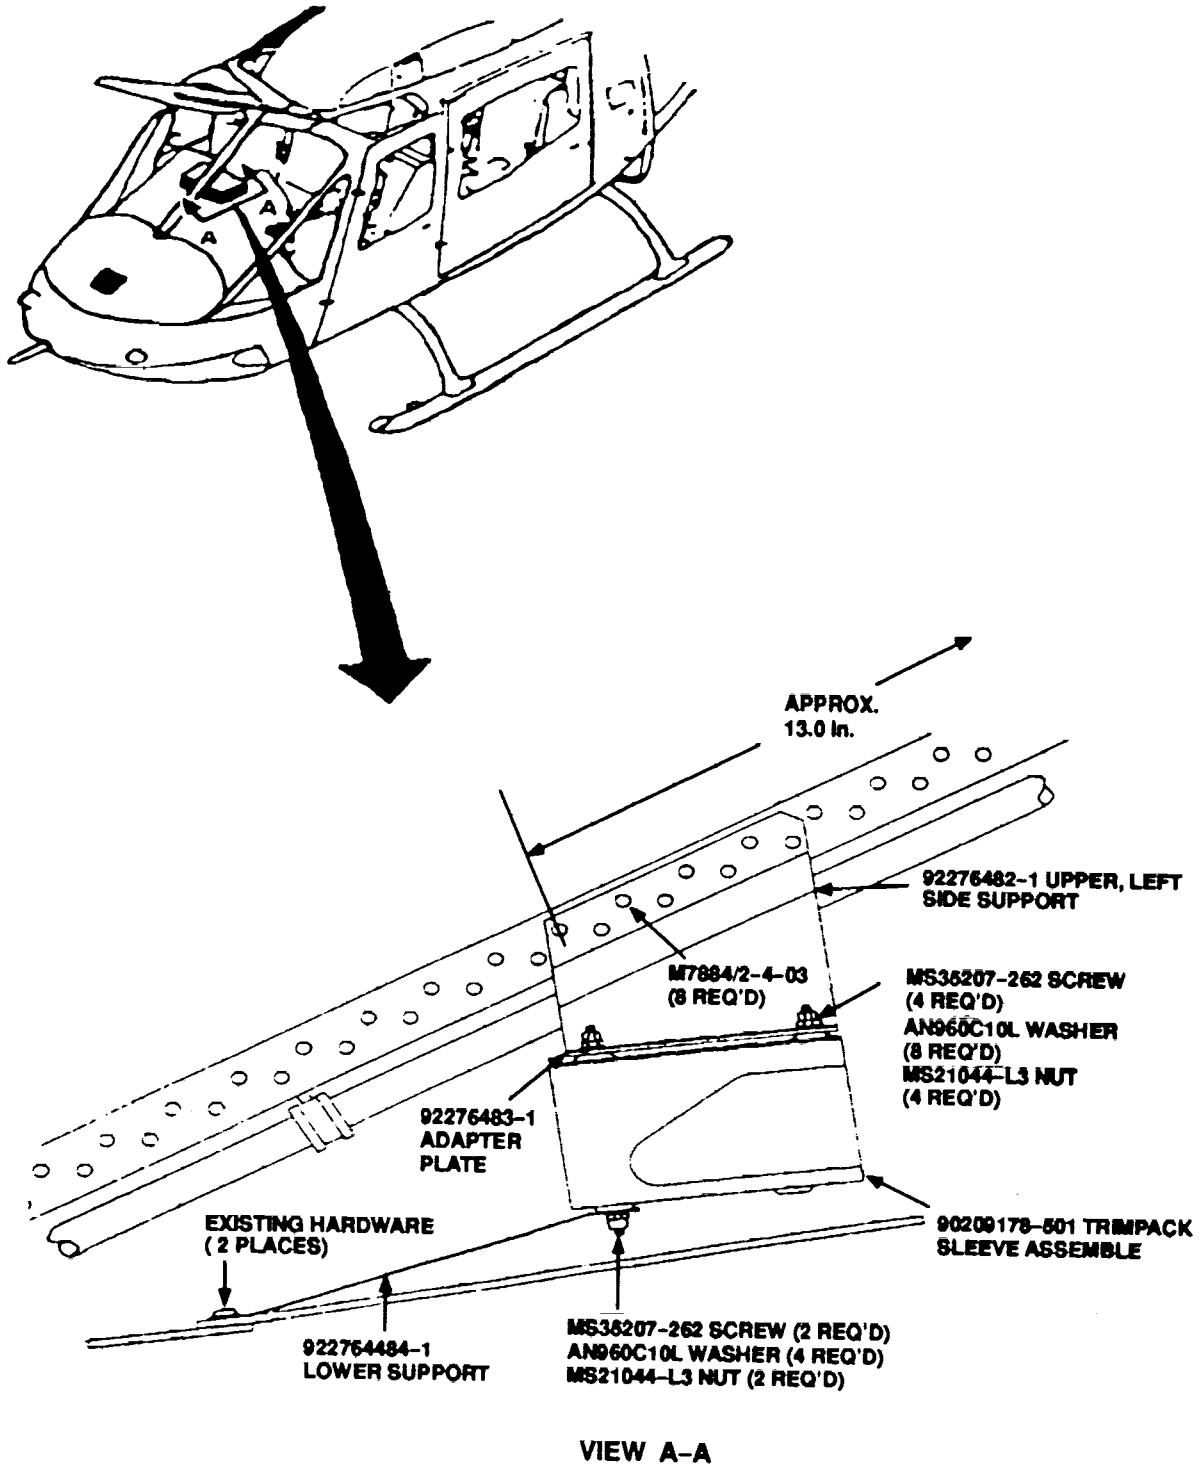

Figure 2. GPS Trimpack Receiver Mount Installation.
- g. Remove GPS Trimpack lower support (P/N 92276484-1) (figure 2).
- h. Remove GPS Trimpack sleeve assembly (P/N 90209178-501) (figure 2).
- i. Remove GPS Trimpack upper supports (LS and RS) (P/N 92276482-1 and P/N 92276482-2) (figure 2).